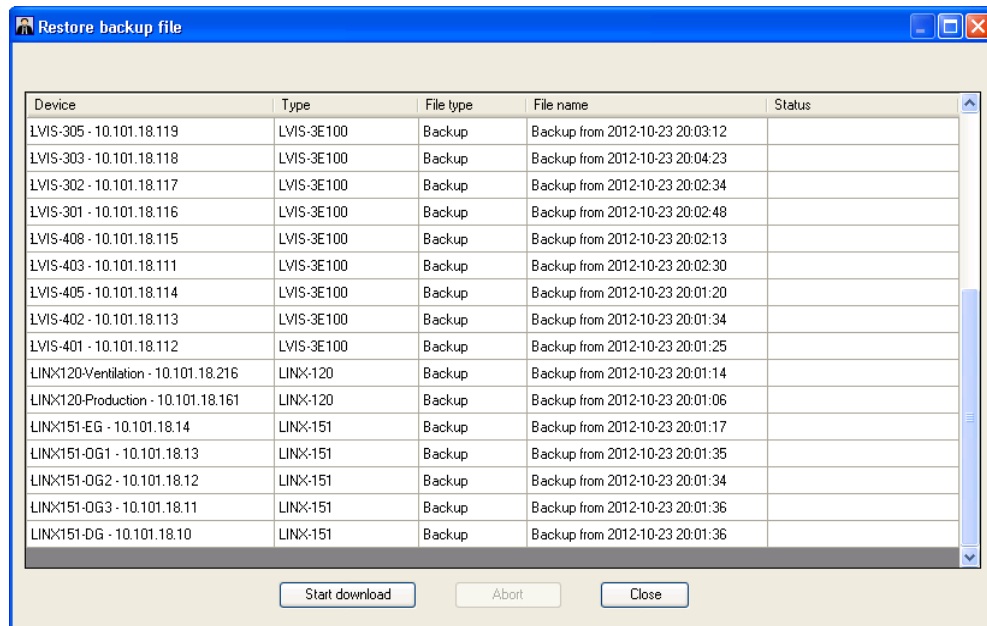

Figure 221: Restore Backup Files Dialog
5. The **Restore backup files** dialog opens (see Figure 221). To start the restore process, press the **Start download** button. During the restore operation, the **Status** column is updated with current information.